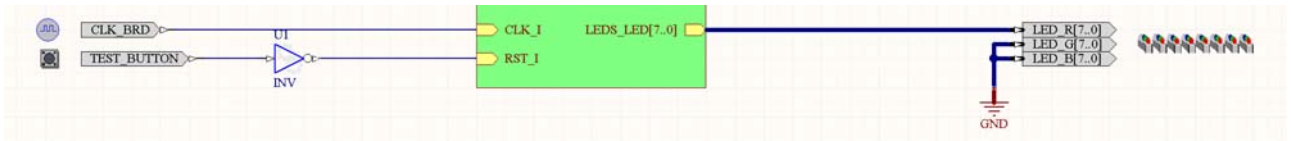

Figure 9. Wire the lower section of circuitry.
19. Wire up the components on the lower end of the sheet symbol, as shown in Figure 9.